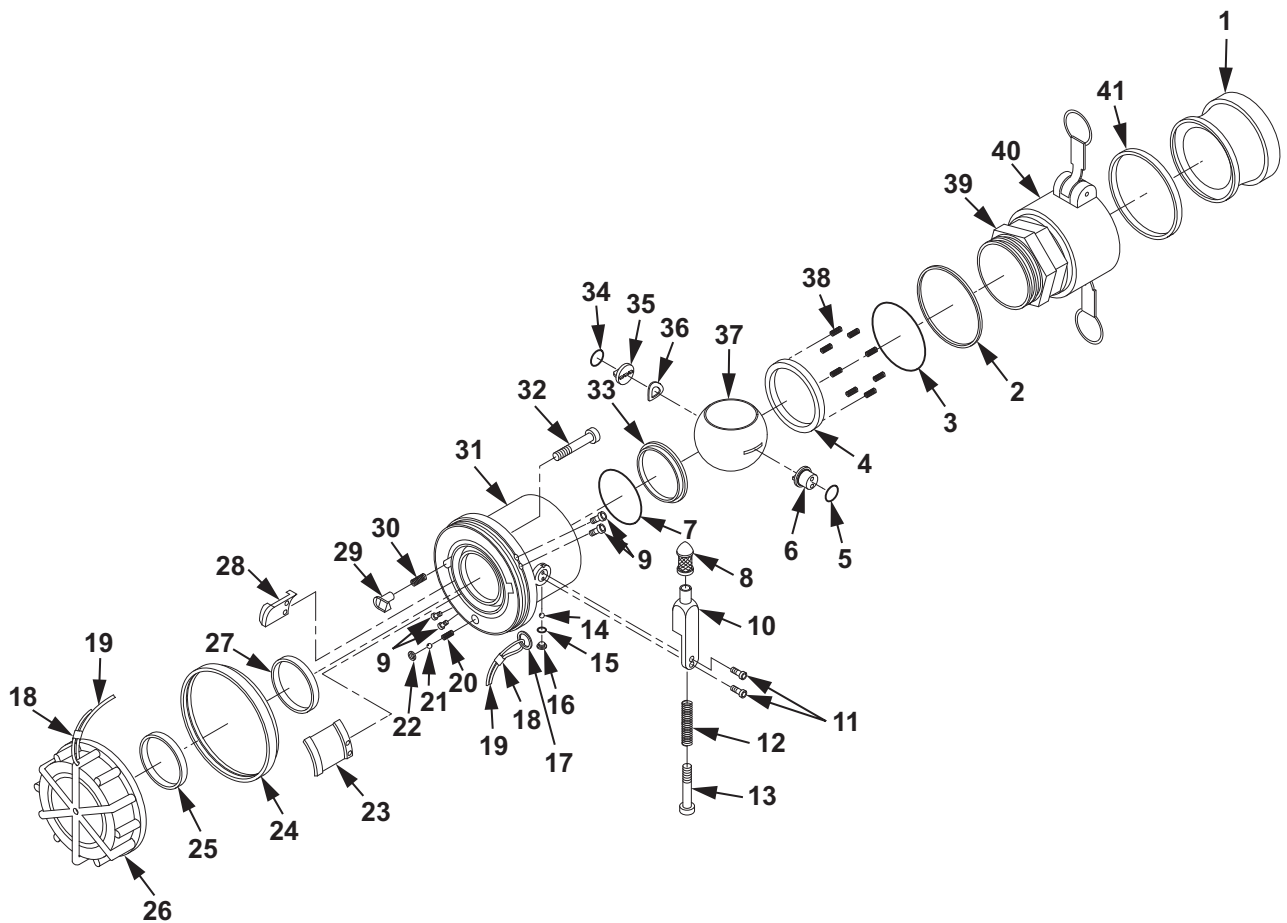

Figure 1. Valved Dry-Break Coupling Disassembly.
Keep inlet hole in the up position when removing screw (Figure 1, Item 16) to prevent loss of ball bearings (Figure 1, Item 14) inside coupling (Figure 1, Item 31).
2. Remove screw (Figure 1, Item 16) from coupling (Figure 1, Item 31).
3. Remove O-ring (Figure 1, Item 15) from screw (Figure 1, Item 16).
4. Discard O-ring (Figure 1, Item 15).
Ensure all 41 ball bearings (Figure 1, Item 14) are accounted for during disassembly.
5. Hold coupling with screw hole toward cleaning cloth and rotate inlet fitting to allow ball bearings (Figure 1, Item 14) to fall onto the cleaning cloth.
6. Remove quick disconnect coupling half adapter (Figure 1, Item 39) from coupling (Figure 1, Item 31).
7. Remove seal (Figure 1, Item 4) from quick disconnect coupling half adapter (Figure 1, Item 39). Discard seal (Figure 1, Item 4).
8. Remove eight springs (Figure 1, Item 38) from quick disconnect coupling half adapter (Figure 1, Item 39).
9. Remove O-ring (Figure 1, Item 3) from inside groove of quick disconnect coupling half adapter (Figure 1, Item 39). Discard O-ring (Figure 1, Item 3).
10. Remove O-ring (Figure 1, Item 2) from outer groove of quick disconnect coupling half adapter (Figure 1, Item 39). Discard O-ring (Figure 1, Item 2).
11. Rotate ball valve (Figure 1, Item 37) to the closed position and remove from inside coupling (Figure 1, Item 31).
12. Remove spring washer (Figure 1, Item 36), stop pin (Figure 1, Item 35) and O-ring (Figure 1, Item 34) from inside coupling (Figure 1, Item 31).
13. Discard O-ring (Figure 1, Item 34).
14. Remove seal (Figure 1, Item 33) from coupling (Figure 1, Item 31).
15. Discard seal (Figure 1, Item 33).
16. Remove O-ring (Figure 1, Item 7) from coupling (Figure 1, Item 31).
17. Discard O-ring (Figure 1, Item 7).
18. Remove two screws (Figure 1, Item 11) from control arm (Figure 1, Item 10).
19. Remove control arm (Figure 1, Item 10) from coupling (Figure 1, Item 31).
If it is necessary to disassemble control arm (Figure 1, Item 10), perform the following steps.
- a. Remove screw (Figure 1, Item 13) from control arm (Figure 1, Item 10).
- b. Remove spring (Figure 1, Item 12) from control arm (Figure 1, Item 10).
- c. Remove knob (Figure 1, Item 8) from control arm (Figure 1, Item 10).
20. Remove control arm shaft (Figure 1, Item 6) and O-ring (Figure 1, Item 5) from inside coupling (Figure 1, Item 31).
21. Discard O-ring (Figure 1, Item 5).
22. Remove seal (Figure 1, Item 27) from coupling (Figure 1, Item 31) interface.
23. Discard seal (Figure 1, Item 27).
If it is necessary to replace dust cap (Figure 1, Item 26), perform the following removal steps.
24. Cut cable (Figure 1, Item 19) or remove split ring (Figure 1, Item 17) from coupling (Figure 1, Item 31) and cable (Figure 1, Item 19).